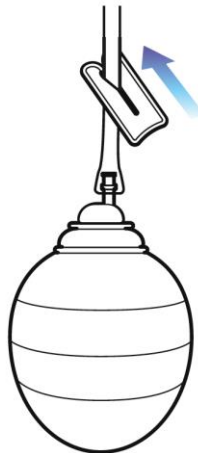

Figure 19: Occlusion of drainage in the closed wound drainage system
Step 6 – Use the tube clamp (packaged with Origin™) to clamp the flexible tubing and impede drainage into the evacuator as depicted by **Figure 19** below. Do not clamp the flexible tubing too close to the evacuator to facilitate the attachment of Origin™ to the patient's wound drain.